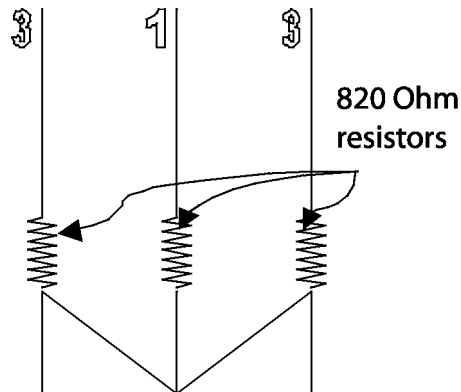

Figure 2. Antenna radiating element electrical diagram.
4. Locate the two elements that have the white band marked "3" along with the element marked with a "1" (see fig. 2).
9. With the ends still disconnected from the balun, check the appropriate resistors (see fig. 2) in the failed legs. Check resistance across the resistor terminals with the wing nuts on them using an ohmmeter. They should read 779 to 861ohms. If they are not within spec, replace the resistor that is not within specification then perform step 3 again.